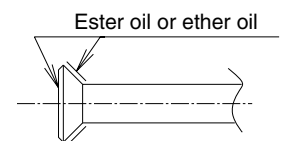

Fig. 7
- Apply ester oil or ether oil to flare section (both inside and out) when using flare nut connections and then turn 3 or 4 times by hand. **(Refer to Fig. 7)**